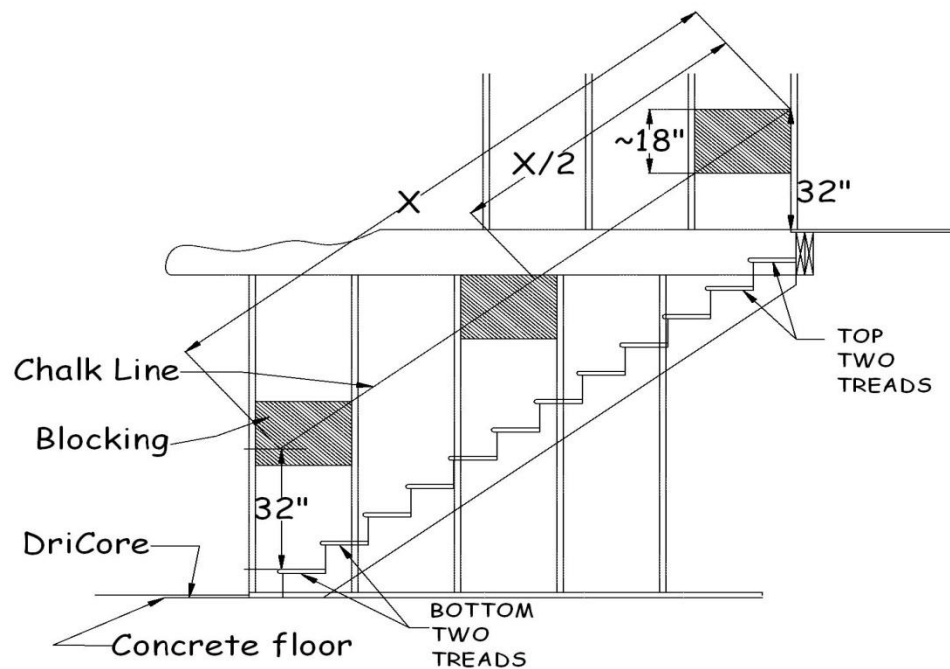

Figure 10-6. Blocking For Handrail.
2. The handrail bracket bottom screws will be mounted approximately 31” above a line that is defined by the nose of the treads. This will place the top of the handrail between the required 34” and 36” above the nose of the treads. To provide some latitude in the placement, measure up 32” from the decking, vertically at the edge of the floor deck, and mark the wall at that height. At the bottom of the stairs, again measure up 32” from the nose of the bottom stair tread. Snap a chalk line between the top and bottom marks. The blocking must be installed so that the top corner toward the top of the stairs is on or above this chalk line, and the bottom corner toward the bottom of the stairs is on or below this line (see Figure 10-6).
3. For blocking, use a combination of scrap 2x12’s, 2x10’s or 2 x6’s to equal a minimum height of 18” (see Figure 10-6). The extra height helps to ensure that handrail brackets will be secured to the blocking after sheetrock is installed.